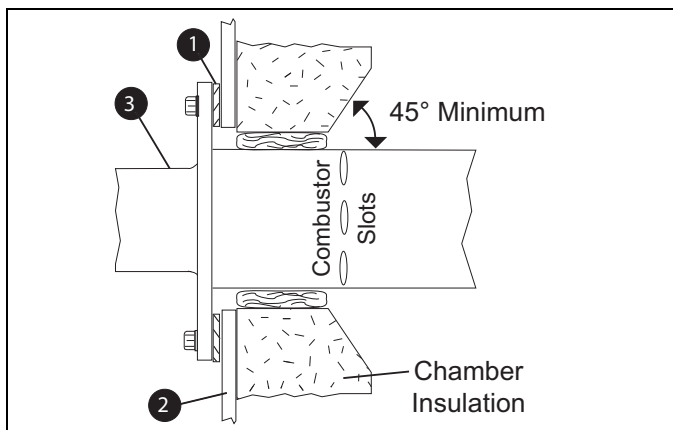

Figure 3.3. Chamber Wall
Make sure the chamber wall ② is strong enough to support the weight of the burner ③. If necessary, reinforce the mounting area. See Figure 3.3.